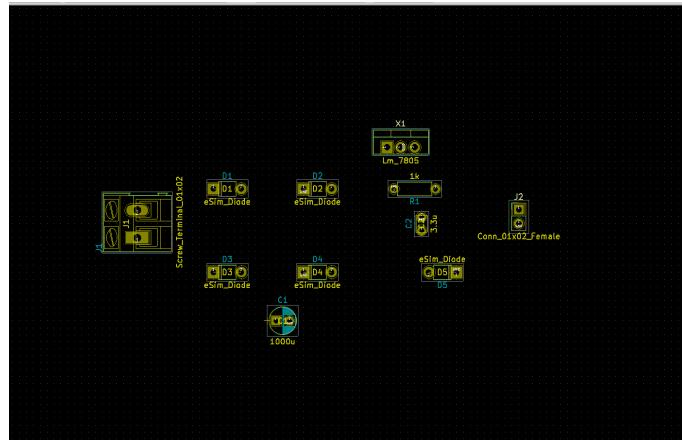

Figure 16.16: All footprints moved and rotated
7. Using similar methods, we have moved and rotated all other footprints as shown in Fig. 16.16